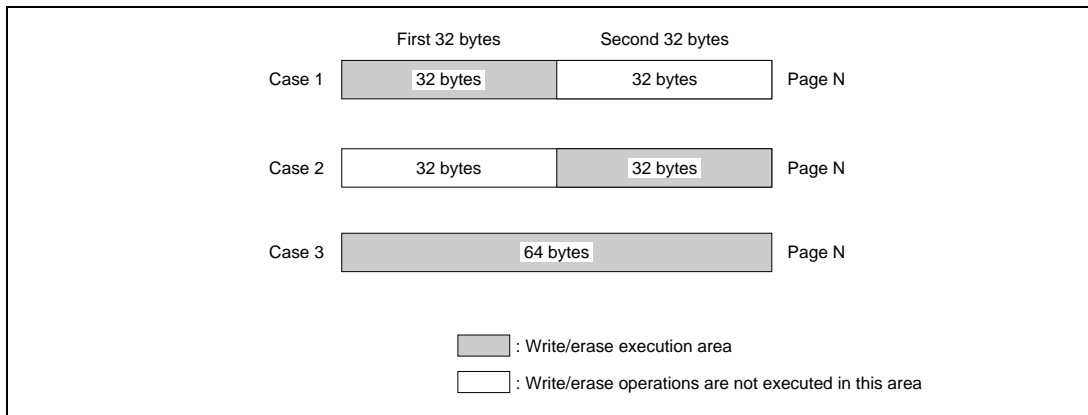

Figure 6.11 Rewrite/Overwrite Operations
(3) Rewrite/Overwrite Operations: Rewrite/overwrite operations are executed in 32-byte or 64-byte units depending on address and the number of bytes to be written into the EEPROM. The rewrite/overwrite unit is selected automatically. Figure 6.11 shows the rewrite/overwrite operation areas.